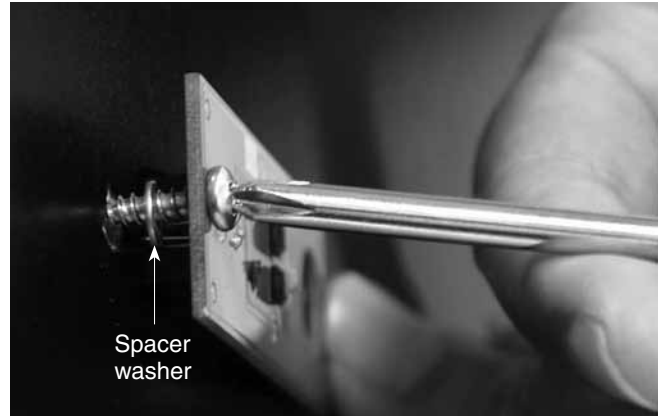
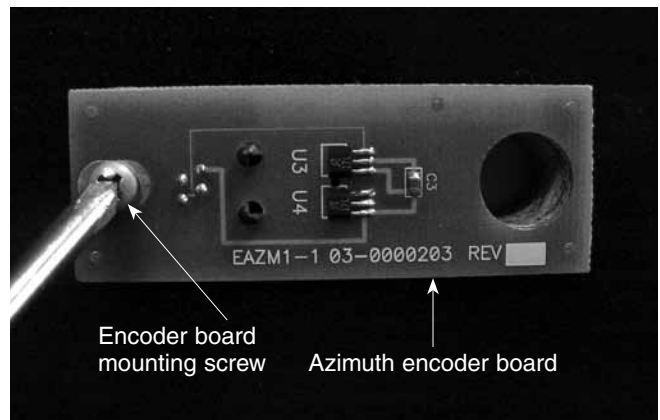

Figure 3a. The spacer washer goes between the azimuth encoder board and the top baseplate of the Dobsonian base.
Figure 3b. Installing the azimuth encoder board. Line up the large hole in the encoder board with the central hole in the top baseplate.
3. Connect the two side panels (C) with the front brace attached to the top baseplate (D) with the remaining six base assembly screws in the predrilled holes. The side of the baseplate with the pilot hole near the square-shaped cutout should be facing downwards. Tighten all six screws firmly.
5. Attach the azimuth encoder board (E) to the underside of the top baseplate (D). Insert the encoder board mounting screw through the circuit board and install the small spacer washer (G) over the screw (**Figure 3a**). Insert the modular jack on the encoder board into the square-shaped hole in the baseplate and align the encoder board so that the small slotted hole in the board lines up with the predrilled starter hole, and the large hole lines up with the central hole in the baseplate. Thread the encoder board mounting screw into the predrilled starter hole with a Phillips screwdriver and tighten until just tight (**Figure 3b**).